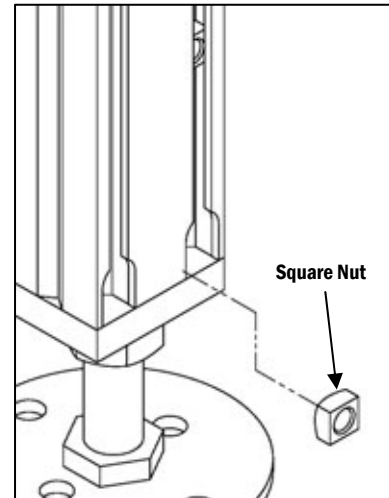

Figure 1
❶ Install the Angle Braces to Exact Width Stands
a. Start by inserting the square nuts in the stand leg's channel at the base where the channel has been routed (**Figure 1**).